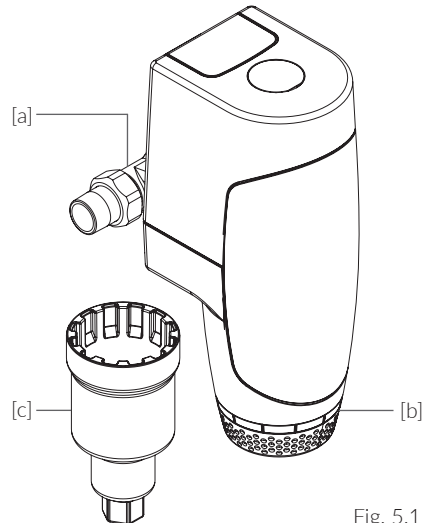

Fig. 5.1
**CLEAR PRO K** is a cartridge filter (Fig. 5.1) with
**CLEAR PRO KD** is a cartridge (Fig. 5.1) with